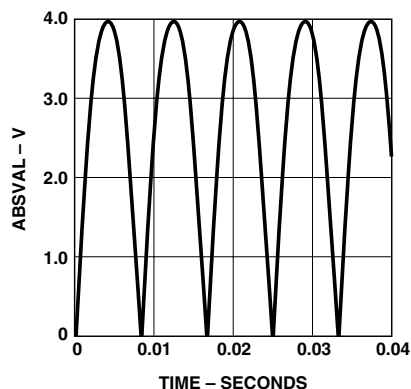

Figure 24. ABSVAL with 1 Phase.
4.6: Why is gain defined as $V_{\text{REF}}/504 \text{ mV}$, not $V_{\text{REF}}/512 \text{ mV}$ as expected, based on Figure 24?	Ideally gain would be $V_{\text{REF}}/512 \text{ mV}$, however, due to internal settling characteristics, the average effective value of the internal 256 mV reference is 252 mV.